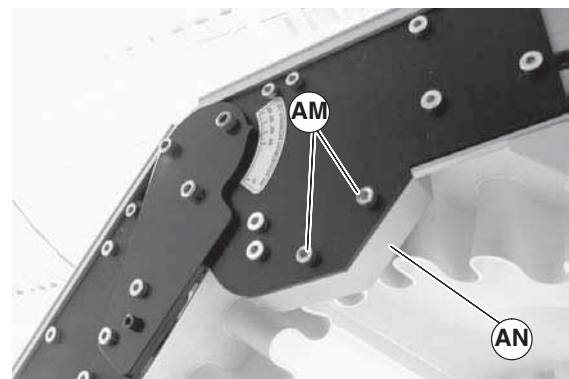

Figure 30
5. If equipped, install lower knuckle return roller assembly (Figure 30, item AK) with screws (AL) on both sides of knuckle, note the position of the meshing teeth.